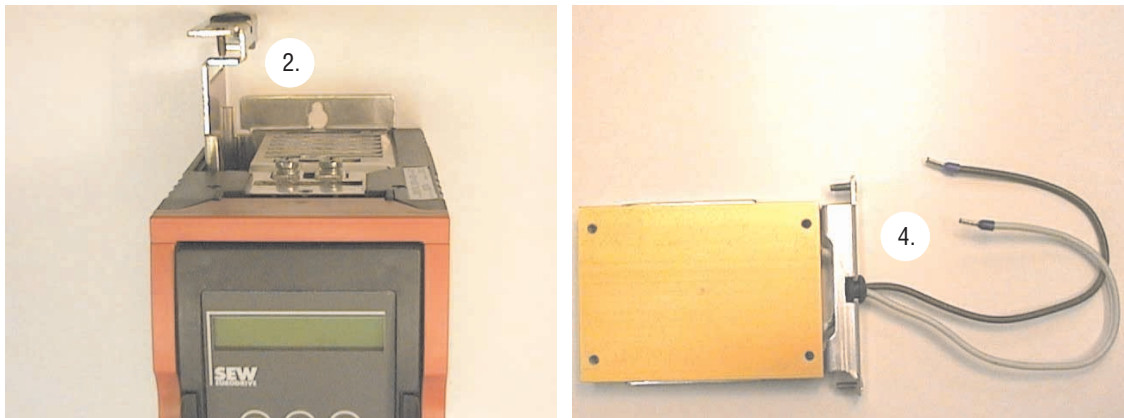

Fig. 9: Pull out mounting bracket and set the braking resistor in
2. Unscrew the mounting bracket for the braking resistor from the top of the unit and pull it out (→ Fig. 9).
4. Route the cables of the braking resistor through the rubber buffer and set the braking resistor into the mounting bracket (→ Fig. 9).